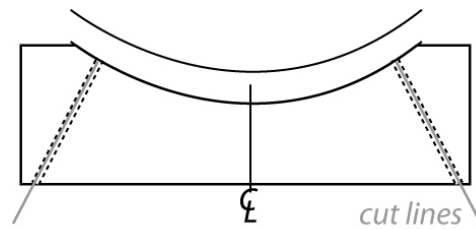
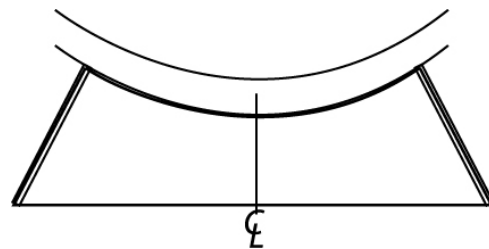

Fig. 9
Fig. 10
9. Reposition the cut shelf on top of the tower, matching the center line on the wall with the center line of the shelf (Fig. 9). Ensure your center-of-top-edge-of-partition lines still match on top of the partitions the full depth of
the shelf (Fig. 9). Re-mark the lines, if necessary. Cut these straight lines and replace the shelf to fit (Fig. 10).